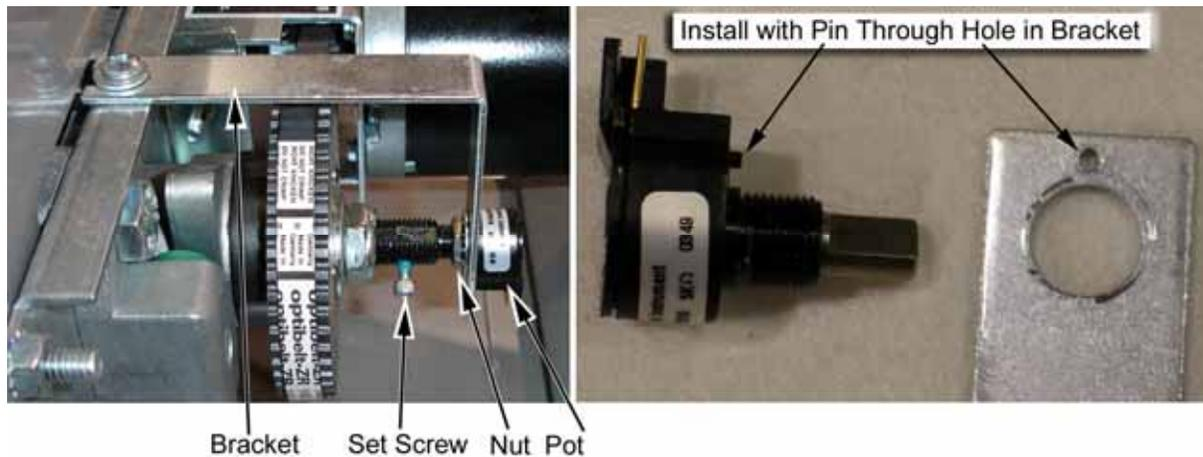
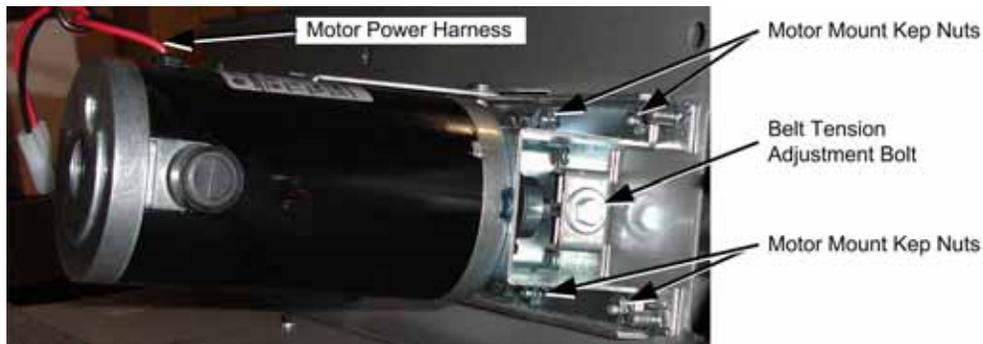

Figure 4. Replacing the 5 K $\Omega$  Steering Pot
Figure 5. Servicing the Steering motor
To replace a pot, refer to Figure 4 and perform the following steps:
3. Reverse these steps to install the new pot. Install the pot with the plastic pin through the small hole in the bracket, as shown in Figure 4 below. Make sure the set screw is against the flat part of the shaft. Tighten the set screw firmly with an Allen wrench and secure with blue Loctite®.
Refer to Figure 4 above, and Figure 5 below, and perform the following steps to remove the force-feedback belt for repair. Always replace the belt if it looks cracked or worn.
1. Using a 7/64 Allen wrench, loosen the set screw from the steering column and remove the bracket with the pot attached (see Figure 4).
2. Using a 10mm socket wrench, loosen the belt tension adjustment bolt several turns until you can slip the belt off of the motor and steering gears (see Figure 5).
3. Loosen the four (4) 3/8" motor mount Kep nuts that secure the steering motor to the frame (see Figure 5).
4. To replace the motor, remove the four (4) 3/8" Kep nuts that you loosened in step 2, and remove the motor.